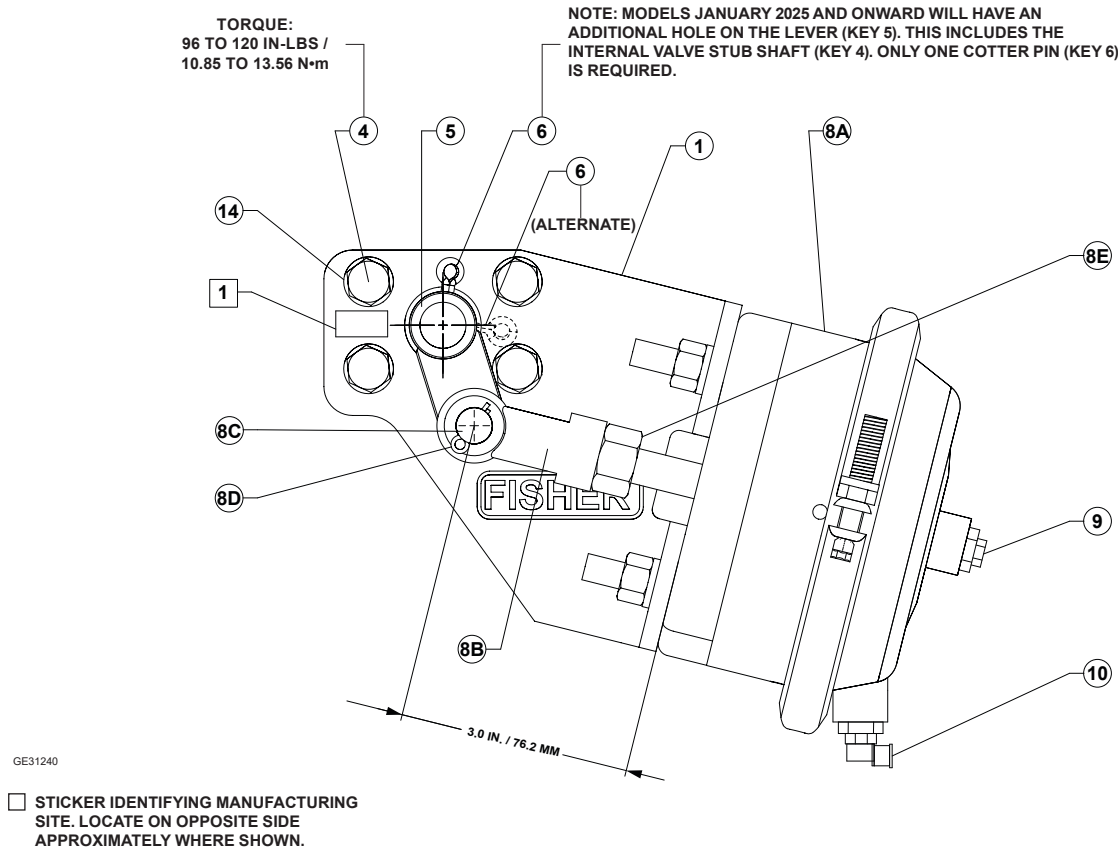

Figure 7. Type P614A for Type C404-32 Internal Valves
Type P614A—There must be no downstream pressure in the internal valve. Mount the bracket (key 1) to the flanges with four bolts (key 4) and lockwashers (key 14) using 120 to 180 in-lbs / 13.56 to 20.34 N•m torque as shown in Figure 7, fitting the operating lever (key 5) on the internal valve shaft.
Parts Lists for Types P614 and P614A (Figure 7)